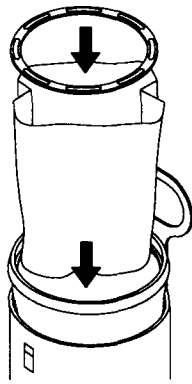

FIG. 1
2. OPEN UP THE PAPER BAG AND FIT INSIDE CLOTH FILTER (FIG.1)